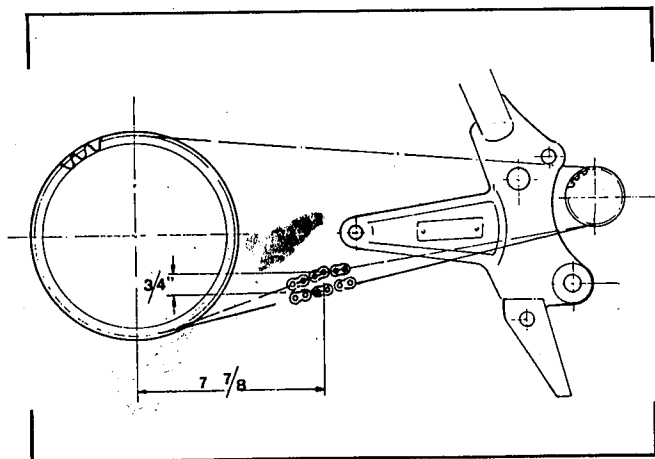

Fig. 22
- operate chain tensioners uniformly in order to obtain in the lower portion of chain, at the distance of $7\frac{7}{8}$ " from wheel axis, a vertical arrow of $\frac{3}{4}$ " (see fig. 22).